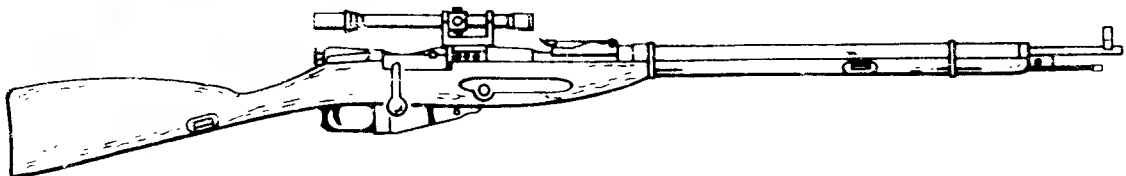

FIGURE 23. SNIPER RIFLE WITH PE TELESCOPE AND MOUNT.
- c. Additional machining and tapping on the receiver of the sniper rifle M1891/30 permits the installation of three different types of mounts and telescopes. The different types of telescopes and mounts used on the sniper rifles are illustrated in figures 23 through 30.